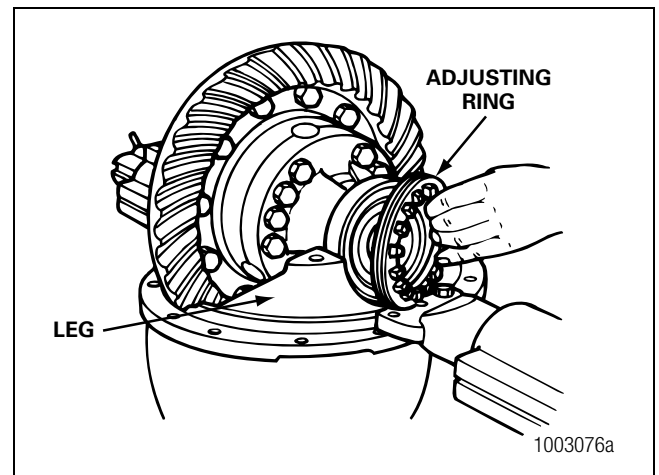

Figure 5.27
6. Install both of the bearing adjusting rings into position between the carrier legs. Hand-tighten each adjusting ring against the bearing cup. Figure 5.27.